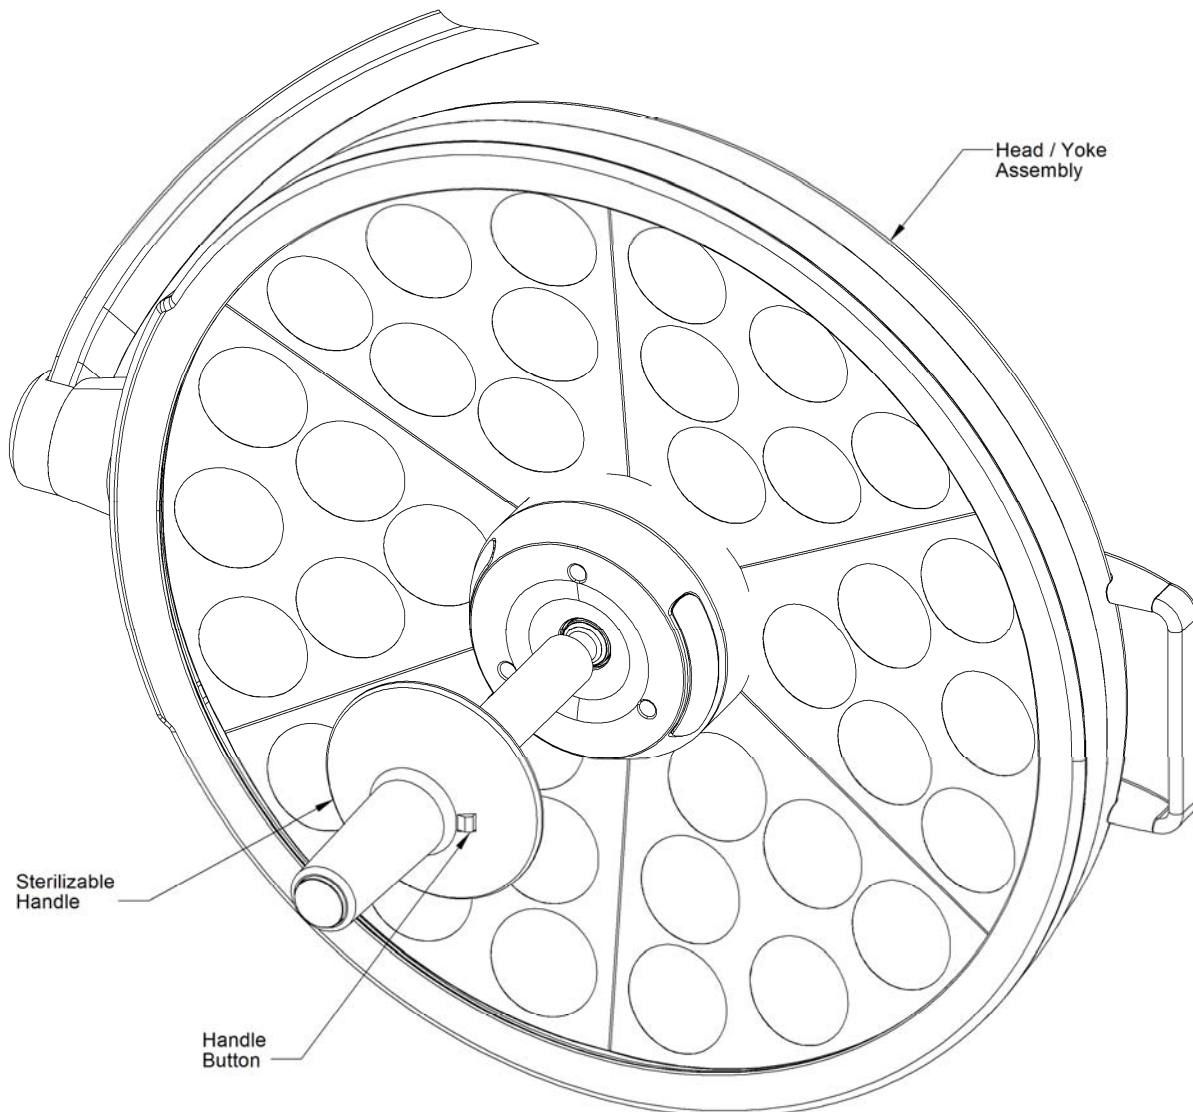

Figure 36. Handle Sterilization
- Remove sterilizable handle by pressing the button near the base of the handle and pulling the handle off the handle post. See Figure 36. Handle Sterilization.